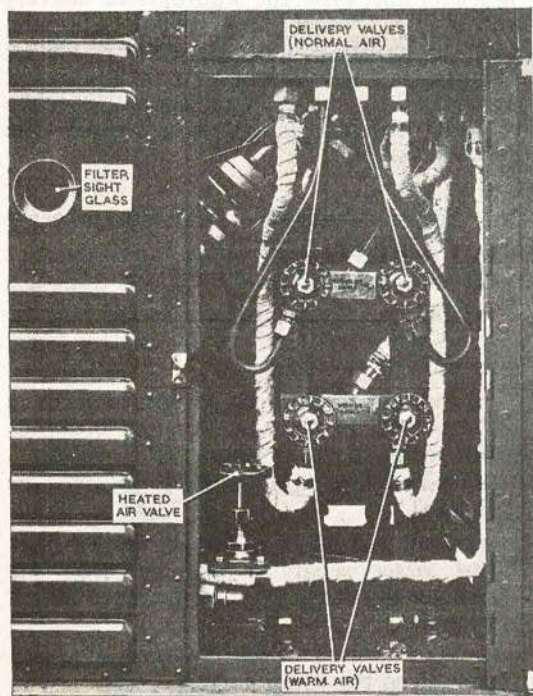

Fig. 17. DELIVERY VALVES
35. Connecting the Hoses. The delivery hoses are permanently connected to the delivery side of the air system. Uncoil the required lengths of hoses from the stowage brackets and turn the appropriate delivery valves (Fig. 17) ON to remove any accumulations of moisture; close the delivery valves. Connect the ends of the hoses to the equipment as required. Adjust the regulating valves to the required delivery pressures and open the delivery valves.